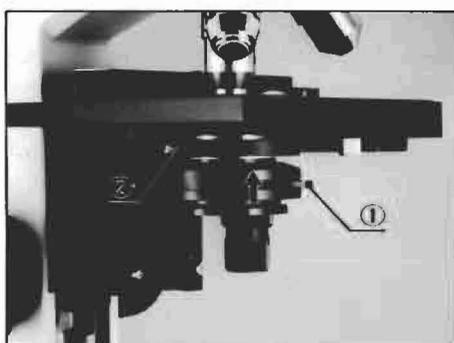

Fig. 5
Insert the condenser into the condenser holder, with the condenser iris diaphragm lever (1), directing in the microscope front, and tighten the clamping screw (2). (Fig. 5)